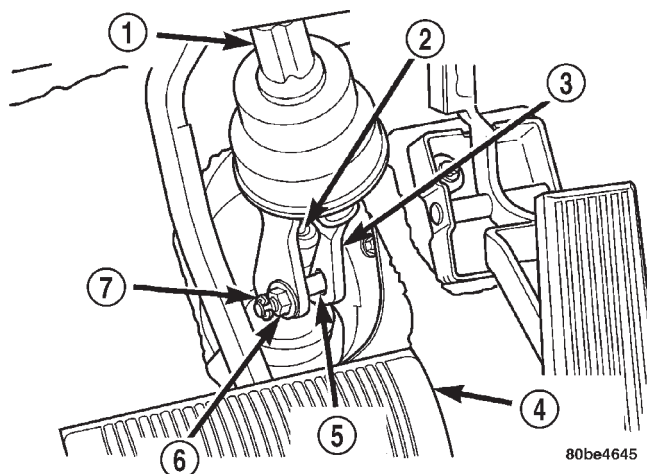

Fig. 18 Early Intermediate Shaft Attachment
(a) On early production vehicles, remove the "E" clip from the steering column intermediate shaft coupler pinch bolt (Fig. 18). Next, remove the pinch bolt from the intermediate shaft coupler by backing off the nut, then separate the intermediate shaft from steering gear shaft.
(a) On early production vehicles, reconnect the steering column intermediate shaft to the steering gear shaft (Fig. 18). Install a **new** intermediate shaft coupler pinch bolt through the coupler and into its nut, then tighten the nut and pinch bolt to a torque of 27 N·m (240 in. lbs.).
(17) On early production vehicles, install a **new** "E" clip on the end of the pinch bolt (Fig. 18).
(18) Start the engine and let run for a few seconds, then turn the engine off.
(19) Add fluid if necessary. Repeat the above procedure until the fluid level remains constant after running the engine.
(20) Start the engine. Slowly turn the steering wheel right and left, lightly contacting the wheel stops.
(21) Add power steering fluid if necessary.